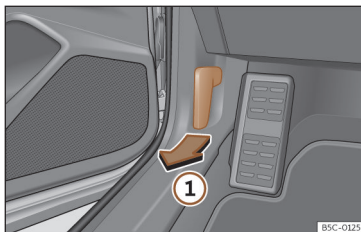

Fig. 222 Release lever in the driver's footwell area.
- Open the door and pull the lever that is underneath the instrument panel >>> **Fig. 222** ①.